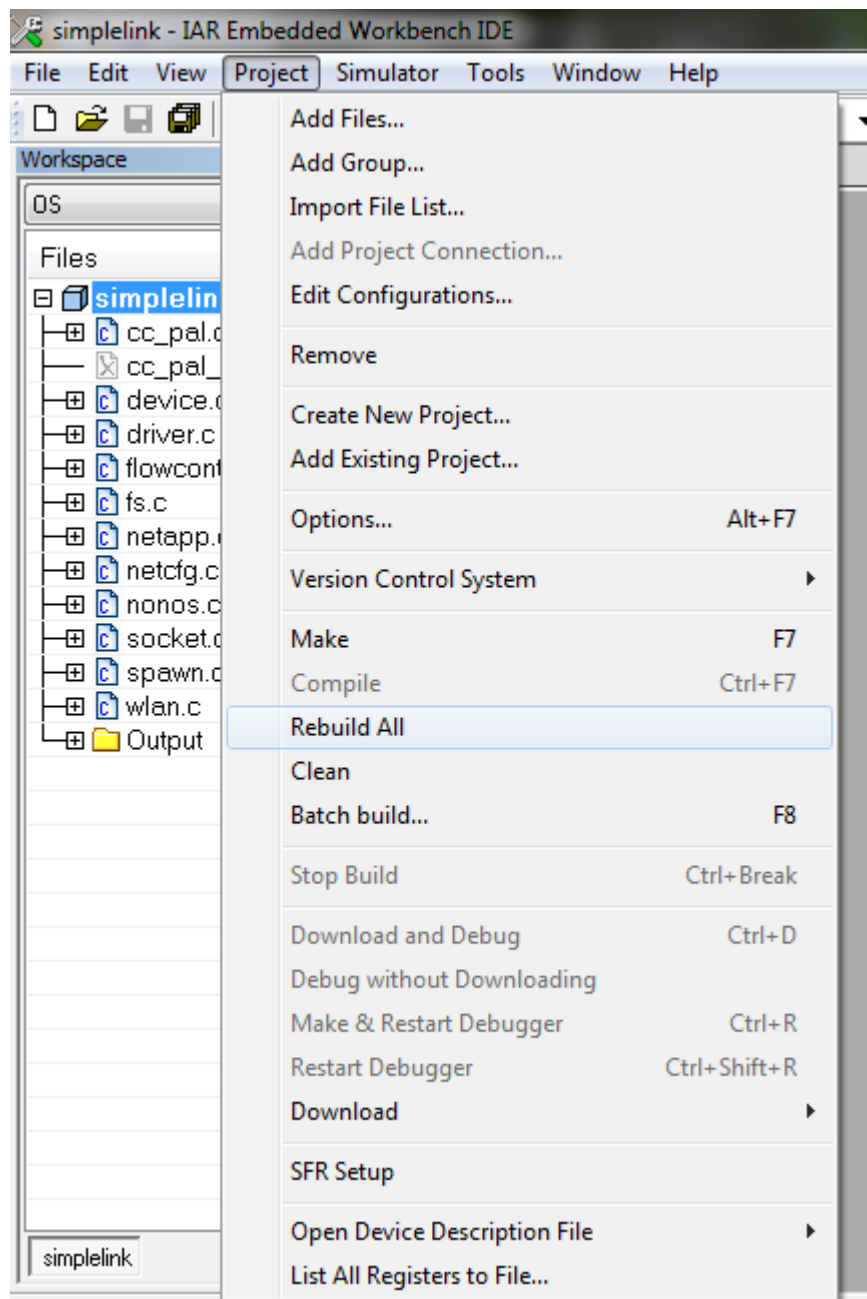

Figure 19. Rebuild the *simplelink* Project.
- Rebuild the *simplelink* project by selecting *Project>Rebuild All* from the menu as shown in Figure 19.